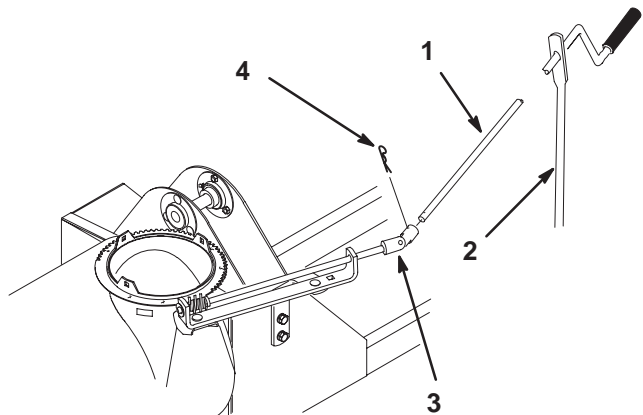

Figure 24
- 17.** Slide the chute control rod through the hole in the end of the crank support and connect the end of the chute control rod to the universal joint on the snowthrower with a medium hairpin cotter (Fig. 24).